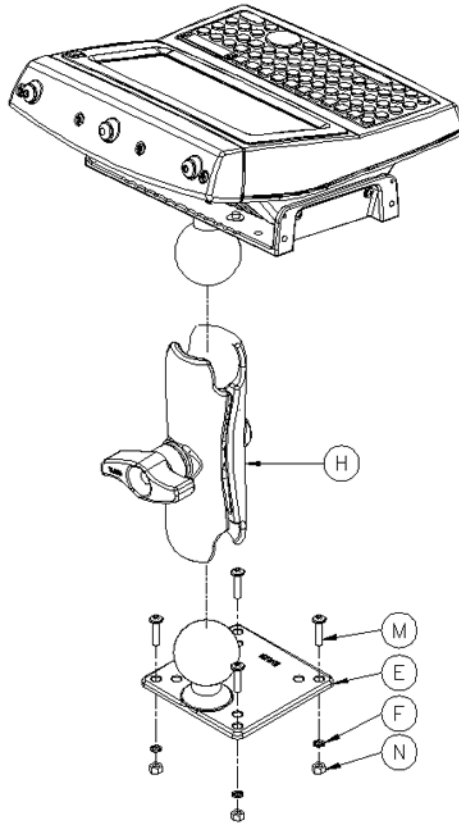

Figure 6.7 RAM Vesa Base
- If you are assembling with RAM Vesa Base, see Figure 6.7 on page 174.